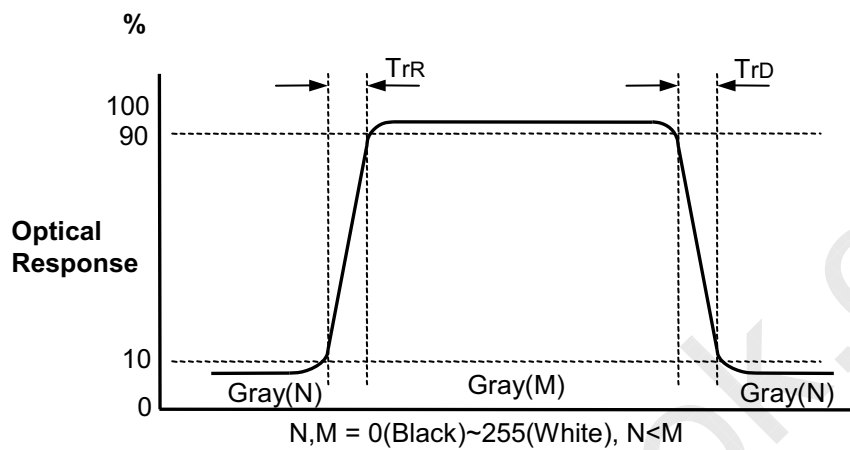

FIG. 3-2 Gray to Gray Response Time
4-2. Response time is the time required for the display to transition from G(N) to G(M) (Rise Time, Tr_R) and from G(M) to G(N) (Decay Time, Tr_D). For additional information see the FIG. 3-2. (N<M)